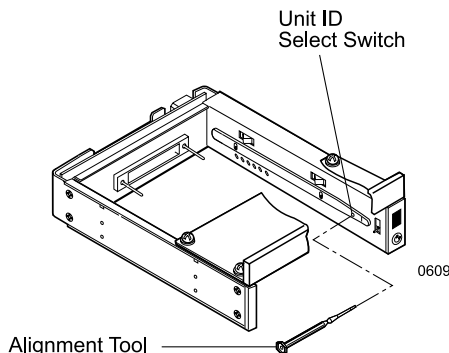

Figure 10: Unit ID Select Switch Location
- **Master/Slave Selection (JP1 ID0-ID1):** Master Drive configuration ID0 (default). Forces master drive configuration on receiving frame. Change jumper to set slave drive configuration, or remove jumper to use Unit ID Select Switch on receiving frame (Figure 10 and Table 3).
3. Use the alignment tool supplied with the DE75i-A to select the ID number of the drive. Refer to Figure 10 for the location of the Unit ID Select Switch inside the receiving frame. Table 3 lists the valid unit ID numbers that can be used for the drive.